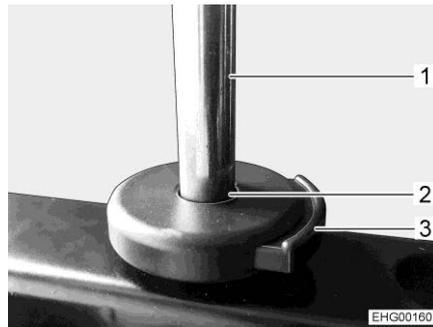

Fig. 16 Release button (headrest)
- Press the release button (Fig. 16,3).
- Plug the holding rod (Fig. 16,1) into the guide (Fig. 16,2).